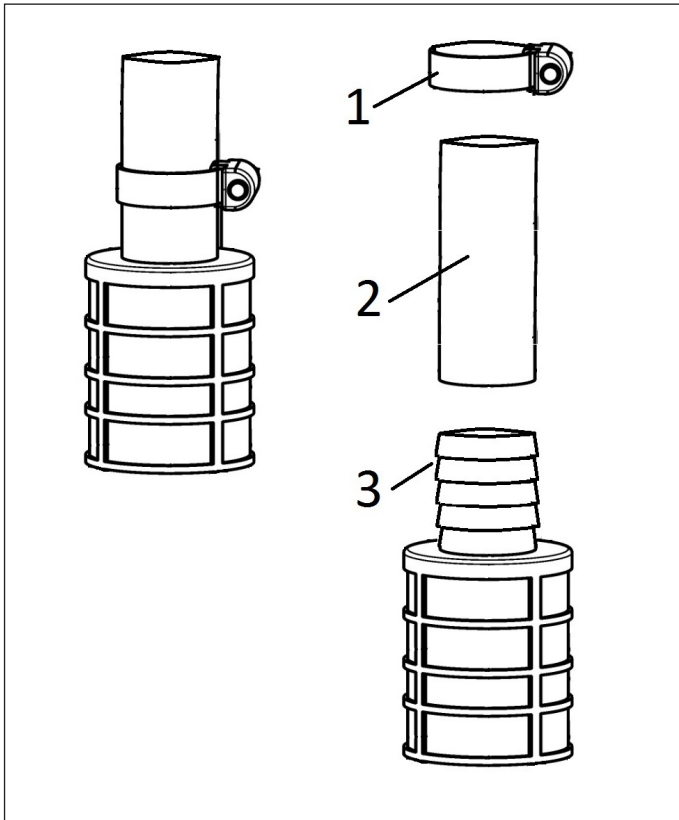

Fig. 8: Suction strainer FA 016.0303
When changing the suction strainer proceed as follows (see Fig. 8):
1. Release the hose clamp (1) and pull the suction strainer (3) from the suction hose (2).
2. Clean the suction strainer (3) with cleaning solvent or diesel fuel or replace it if damaged (Order No. FA 016.0301S7) and dispose of the used part in accordance with the environmental requirements, waste code: OIL FILTER 16 01 07.
3. Attach the suction strainer (3) to the suction hose (2) according to Fig. 8 and secure it with the hose clamp (1).